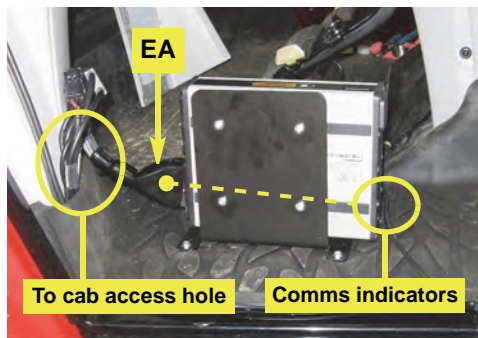

Figure 2a: Main cable connected to ECU
- a. Connect cable **EA** to the ECU **EN** using an Allen wrench to secure the cable. The **EA** connector will only fit the ECU socket that is in line with the power and communications indicators at the opposite end of the ECU—the bottom connector in this installation (Figure 2a).